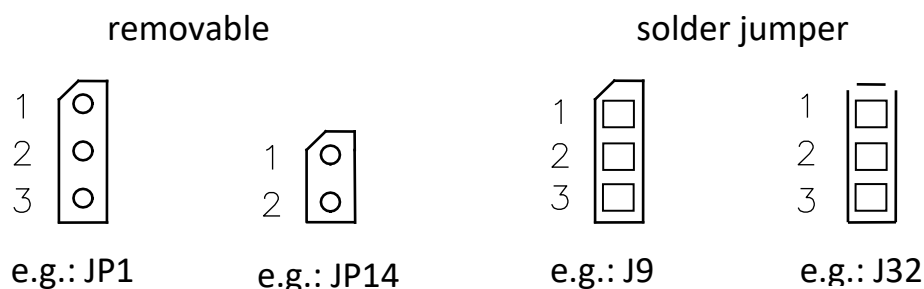

Figure 10: Typical Jumper Numbering Scheme
The phyCORE Carrier Board comes pre-configured with removable jumpers (JP) and solder jumpers (J). The jumpers allow the user flexibility of configuring a limited number of features for development constraint purposes. Table 21 below lists the jumpers, their default positions, and their functions in each position. Figure 10 depicts the jumper pad numbering scheme for reference when altering jumper settings on the development board.